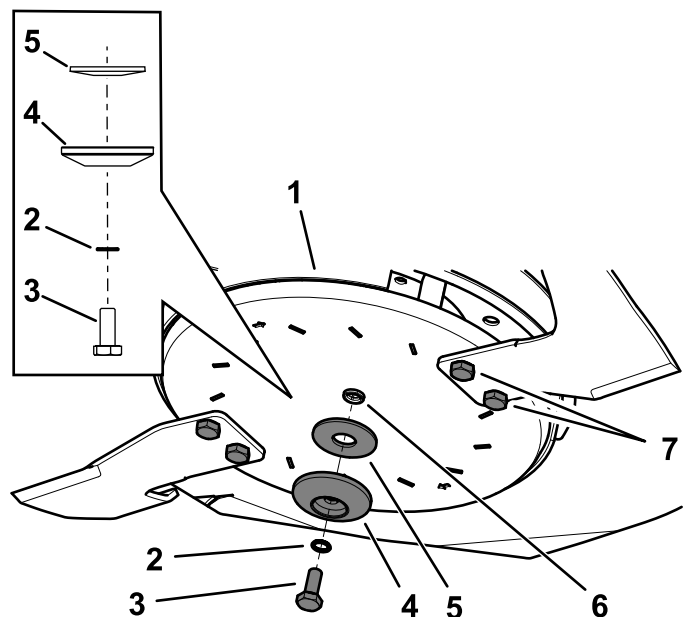

Figure 105
2. Remove the blade bolt, serrated washer, blade retainer, and curved washer from the spindle shaft (Figure 105).
3. Remove the blade assembly (Figure 105).